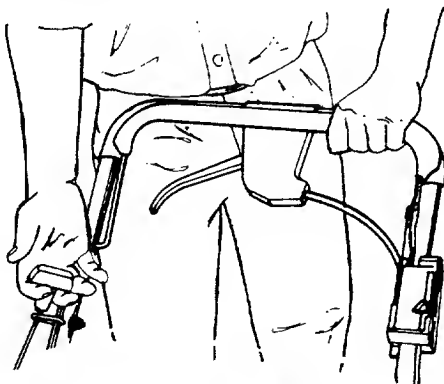

FIGURE 5.—Self-Propelled Model Shown
2. Standing behind the unit, depress the blade control handle and hold it against the upper handle as shown. See figure 5.